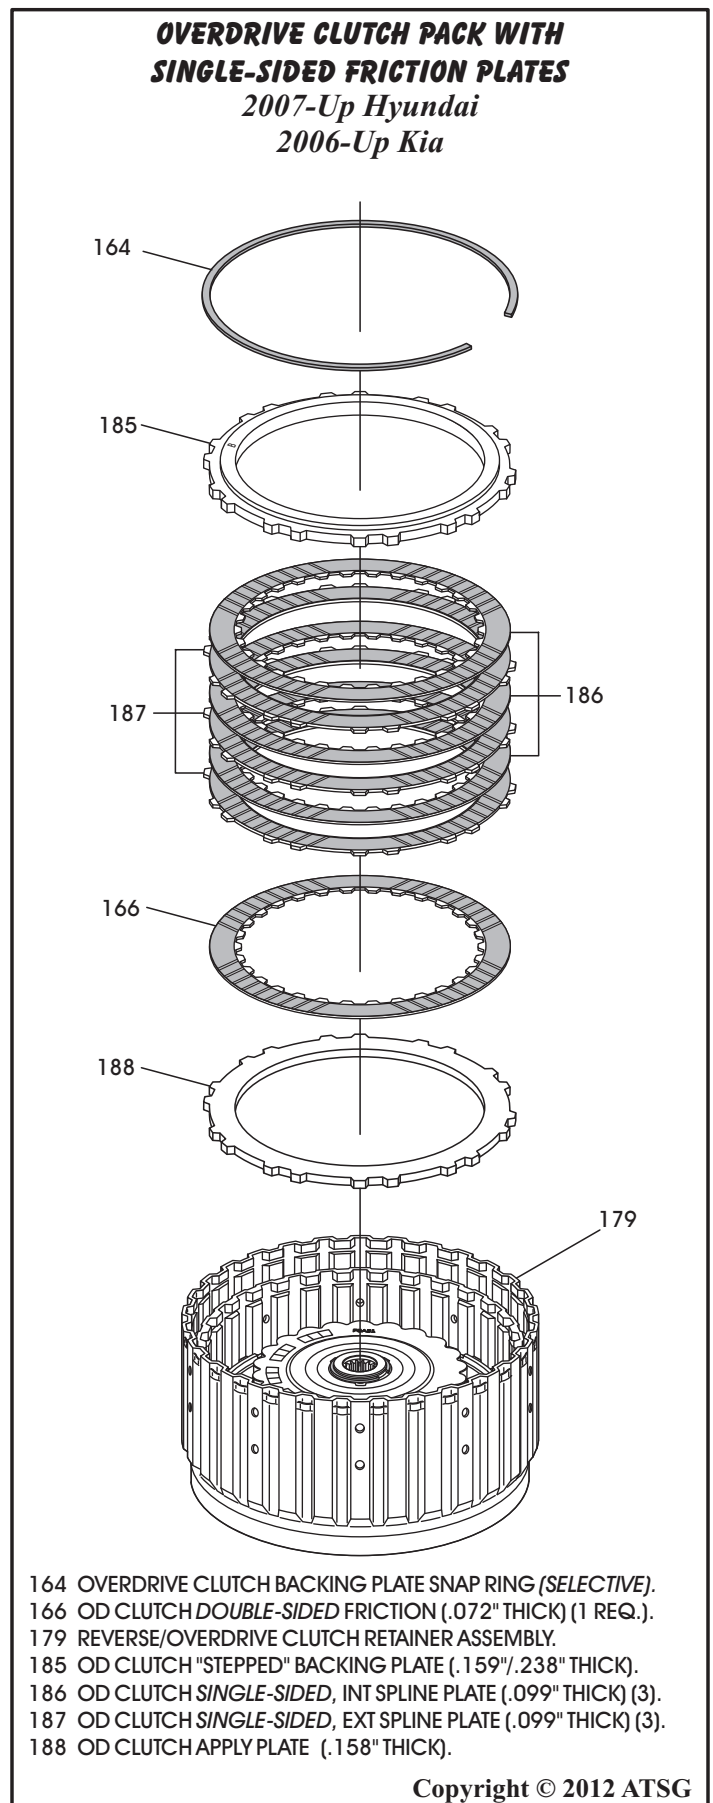

Figure 124
18. Install the overdrive apply plate inside reverse apply piston, as shown in Figure 124.
19. Next, install a normal "double-sided" friction plate, as shown in Figure 124.
20. Next, install the "single-sided" plates beginning with an external spline plate with lining facing up and alternate with internal spline plates until you have installed three of each, as shown in Figure 124.
21. Install the overdrive clutch backing plate, as shown in Figure 124, with the step facing up.
22. Install the *selective* overdrive clutch backing plate snap ring, as shown in Figure 124.